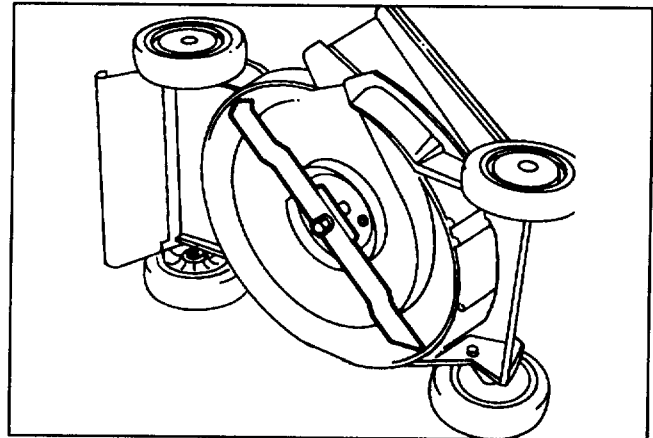

Figure 26
3. Tip mower on its left side (Fig. 26). Avoid rotating blade because starting problems may result.